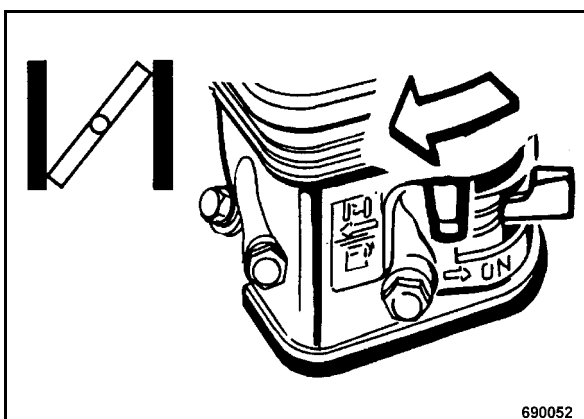

Fig. 17
- Close the choke (Fig. 17) completely by shifting the lever in direction of arrow against the end stop.